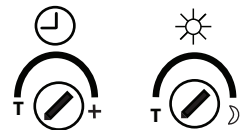

Fig. 5
1. Activate test mode by turning both the light control and light level knobs (with arrow slots) counter clockwise toward "T" until they stop (Fig. 5.)